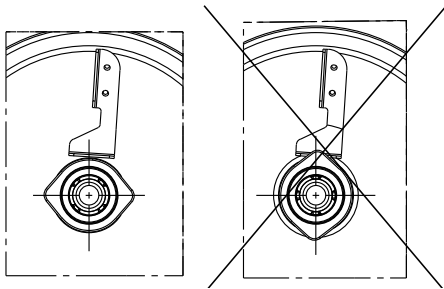

Fig. 11 Fitting the stationary shaft seal part (only SiC/SiC)
3. Press the stationary shaft seal part home. See fig. 11.